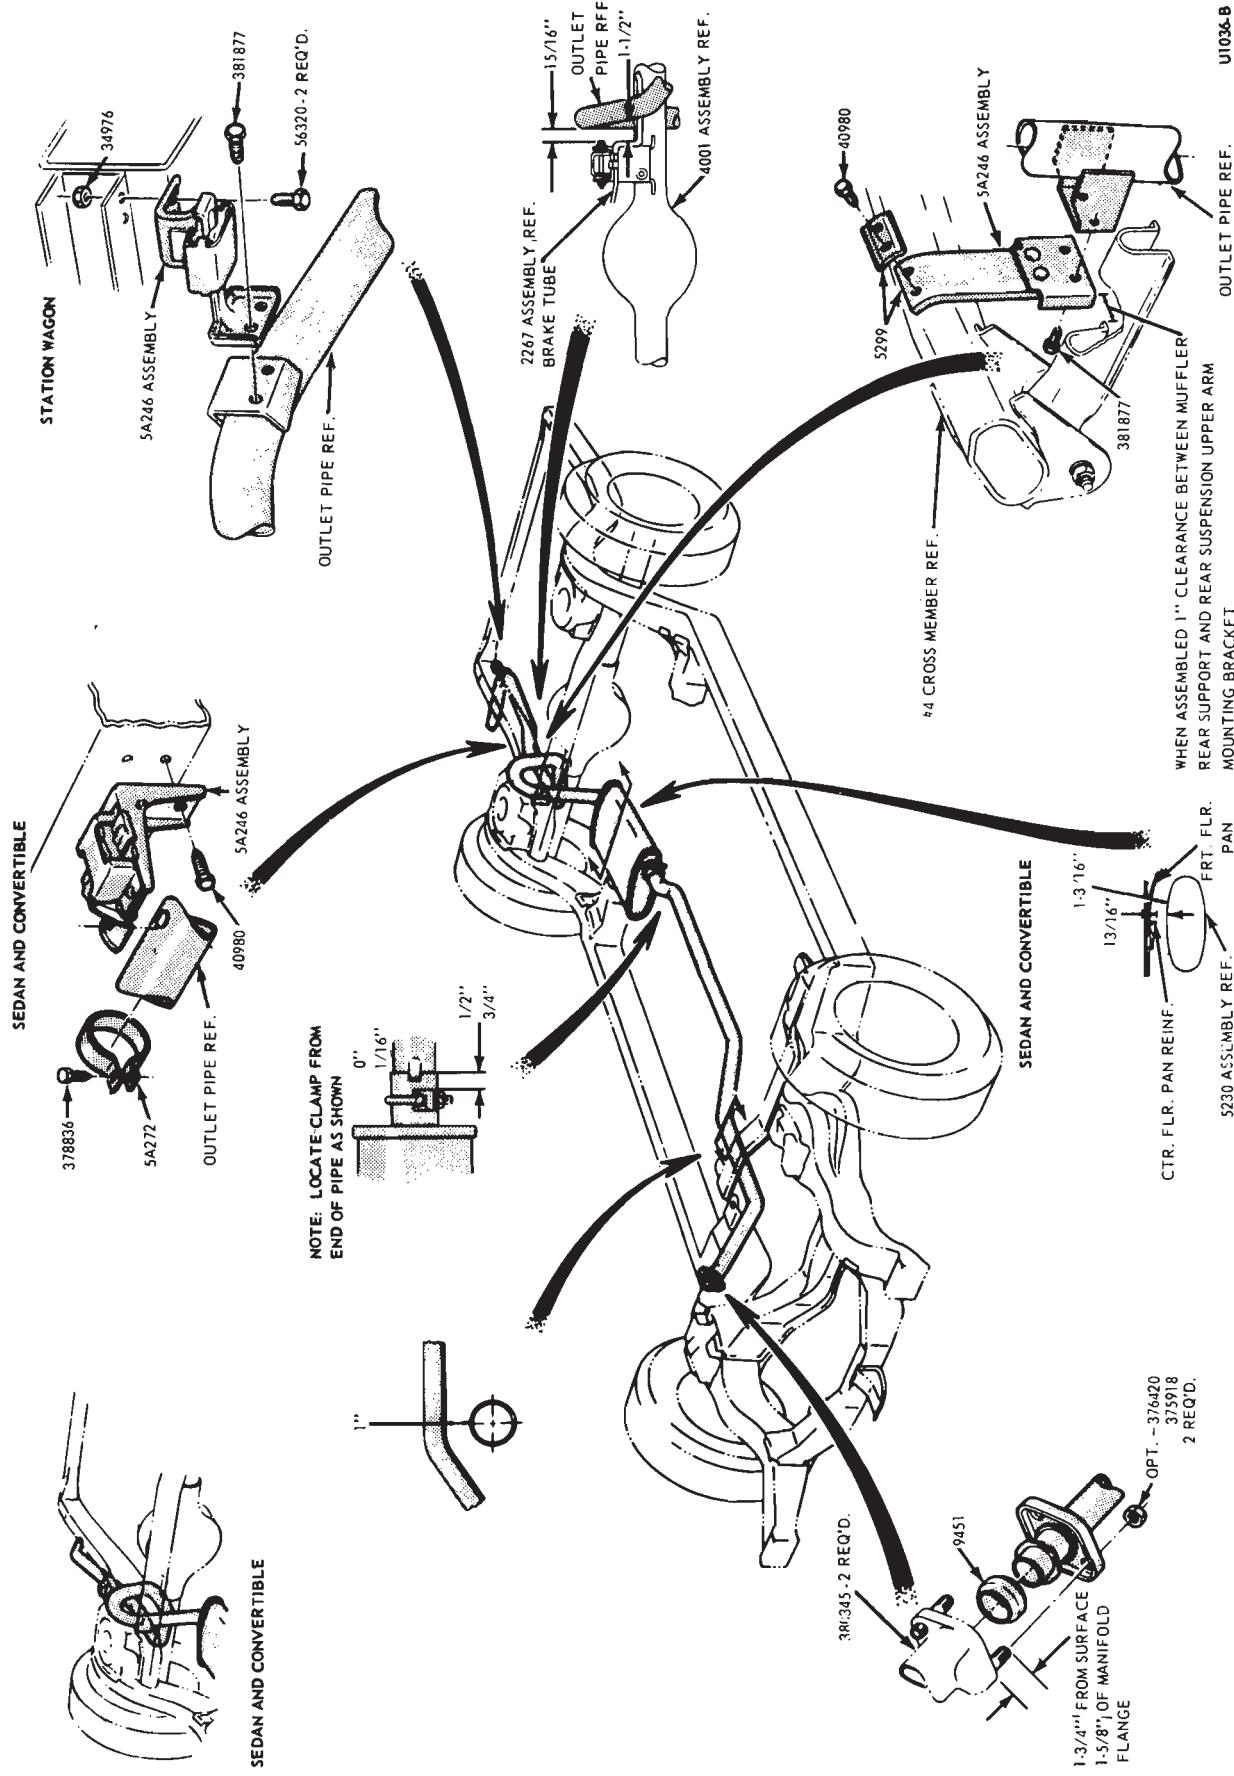

FIG. 1—Ford and Meteor Single Exhaust System—240 Six Sedan, Convertible and Station Wagon
The replacement procedures given apply to all vehicle models unless otherwise noted. Typical exhaust systems for the various vehicle models are shown in Figs. 1 through 5.
5. Align the exhaust system to conform to the clearance specifications (Figs. 1 through 4). Starting from the front of the system, torque all nuts
1. Position the muffler and outlet pipe assembly to the rear support bracket and loosely install the clamp. (Figs. 1 through 4).
4. Align the exhaust system to conform to the clearance specifications (Figs. 1 through 4). Starting from the front of the muffler, torque all nuts and bolts to the specifications in Section 3 of this part.